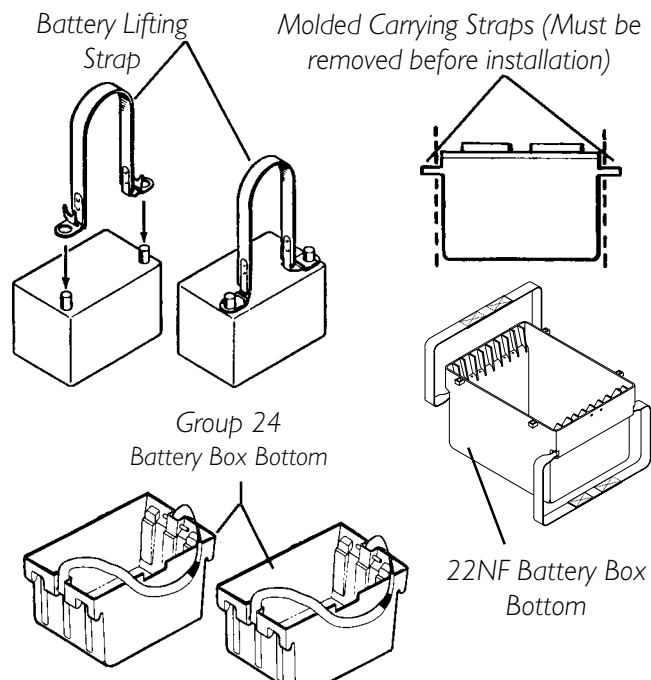

FIGURE 1 - INSTALLING/REMOVING BATTERIES INTO/FROM BATTERY BOXES
2. Disconnect battery cables. Refer to DISCONNECTING/CONNECTING BATTERY CABLES for one (1) of the following:
3. Secure battery lifting strap to battery terminal(s)/post(s) (FIGURE 1).